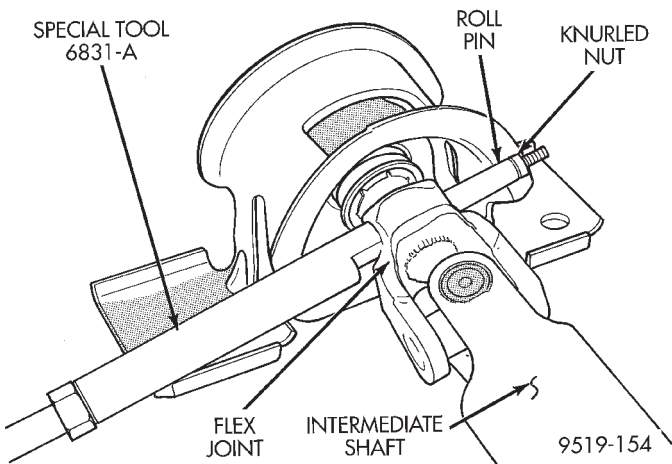

Fig. 22 Tool Set-Up For Installing Roll Pin
(3) Install Remover/Installer, Special Tool 6831-A, through center of roll pin and install knurled nut as shown (Fig. 22).
(4) Using Remover/Installer (Fig. 22), install roll pin into the coupler until roll pin is fully and evenly installed through both sides of the coupler assembly.
(5) Reinstall steering column as necessary back in vehicle. Refer to STEERING COLUMN in this section for the required procedure.